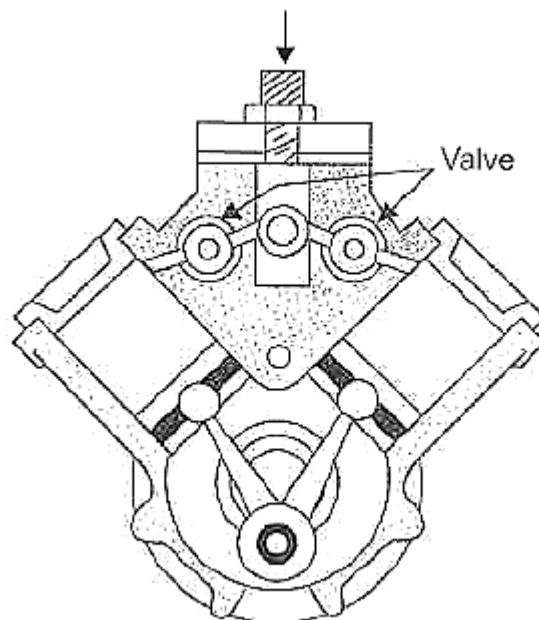

Fig.5.14 Vee type motor
- ▶ The valve timing can be controlled to provide equal power in both directions, or alternatively, may be biased to provide increased power in one direction with a corresponding decrease in the opposite direction. *Fig. 5.14* shows a typical arrangement of a vee motor.